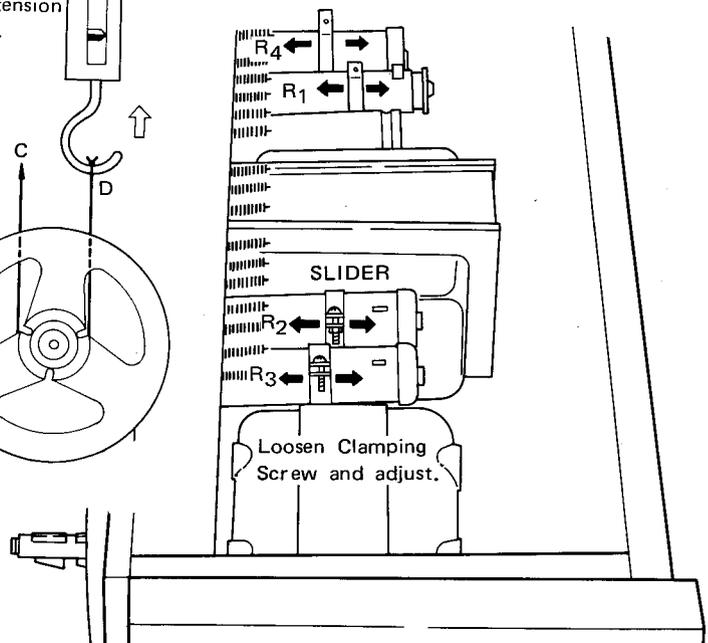

Fig. 12
3. Adjust slider ( $R_2$  500 $\Omega$ ) so that the gauge reads 93 ~ 110g (280 ~ 330g.cm) (Fig. 12).